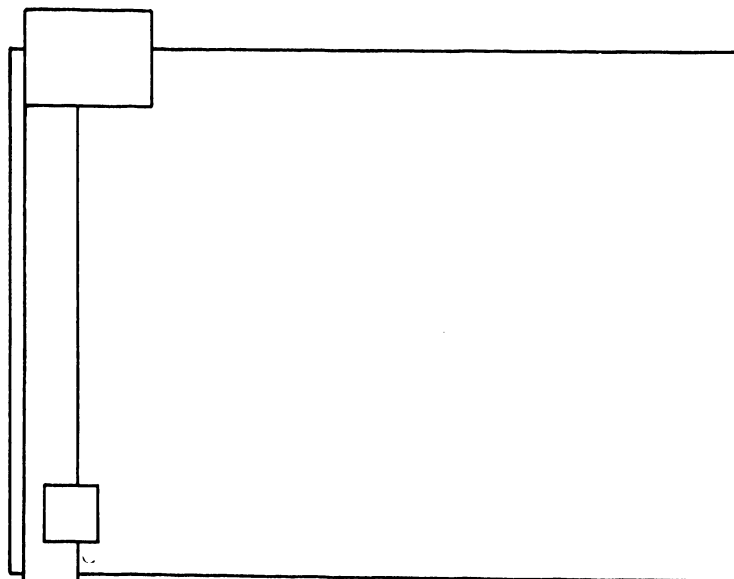

FIGURE 9
The home position on the Model 32 is located in the bottom left corner of the plotting table. This point is usually used as a reference point so that a known starting point may be obtained at any time. See Figure 9.
- 1) Place the pen carrier assembly in the home position. See Figure 9.